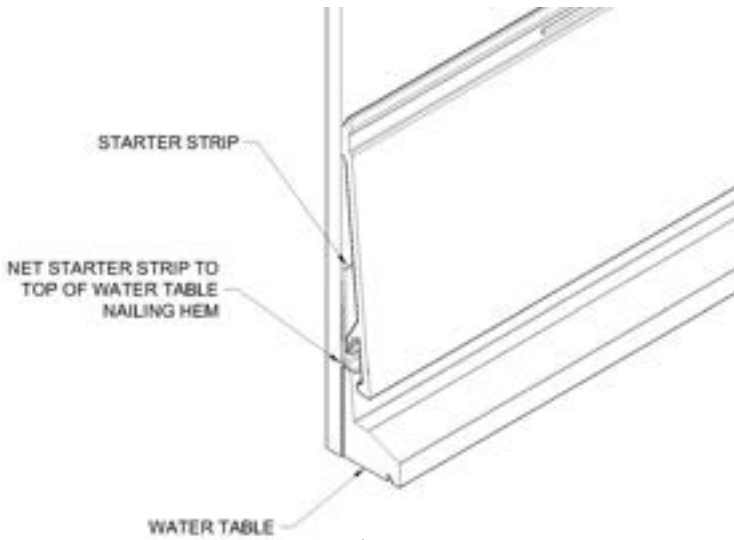

Fig. 1
3. On a table saw, remove top of water table to achieve desired gap from the bottom of the siding to the surface of the water table (Fig. 1, 2, 3).